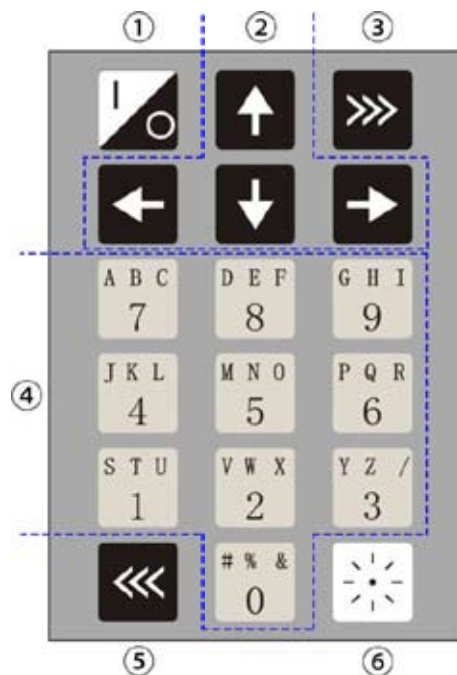

Fig.6 Photo of Handheld Controller
The handheld controller is illustrated in Fig. 6. The red and black clips are connected to the red (A) and yellow (B) cable of RBEF-E-Mini respectively for communication.